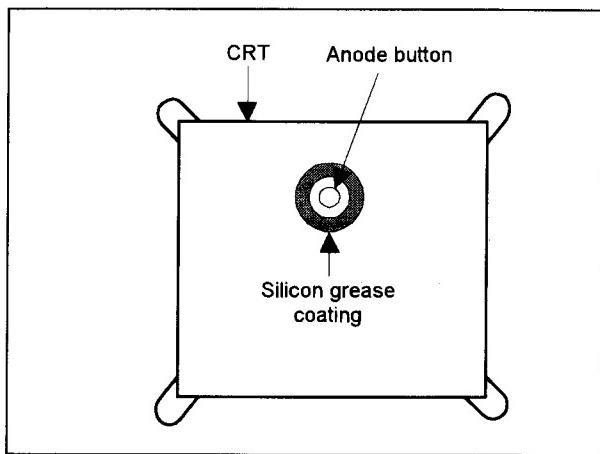

Fig. 6
- Subsequent to replacement of the CRT and HV transformer or repair of the anode cap, etc. by dismounting them, be sure to coat silicon grease for electrical insulation as shown in Fig.6.
Wipe around the anode button with clean and dry cloth. (Fig.6)